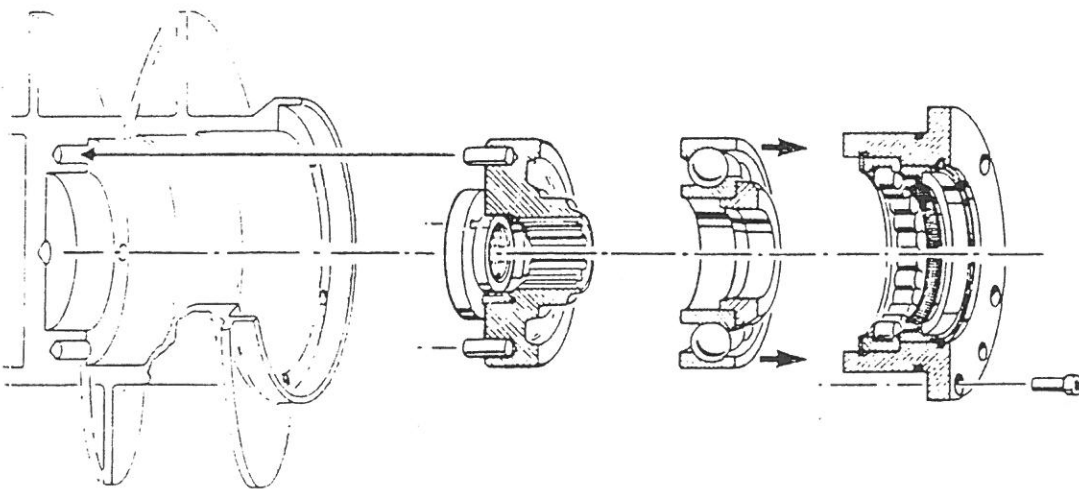

Figure 6
1. Fill the ball bearing holder (43) with ball bearing grease before installing the angular contact ball bearing. Be sure the narrow shoulder of the outer race (42) faces outward toward the gearbox end. See arrows in figure 6. If the ball bearing holder (43) cannot be pushed into its seat by hand, use a pipe for a drift and tap it in gently, carefully aligning its guide pins with the holes. Be sure the bearing holder bottoms out.
- a. Roller bearing outer race (48) with rollers.
- b. Snap ring (40) facing roller bearing.
- c. Lip seal ring (35) in seal lining. Be sure the lip seal is turned outward. See figure 6.
- d. O-ring (33) in groove of seal lining (34).
- e. Seal lining (34) in bearing holder (37).
- f. Snap ring (32) facing seal lining (34).
- g. O-ring (39) in groove of bearing holder (37).